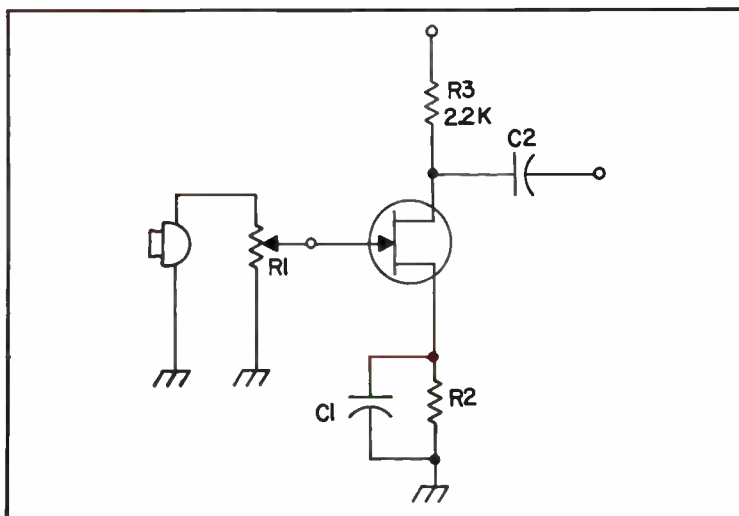
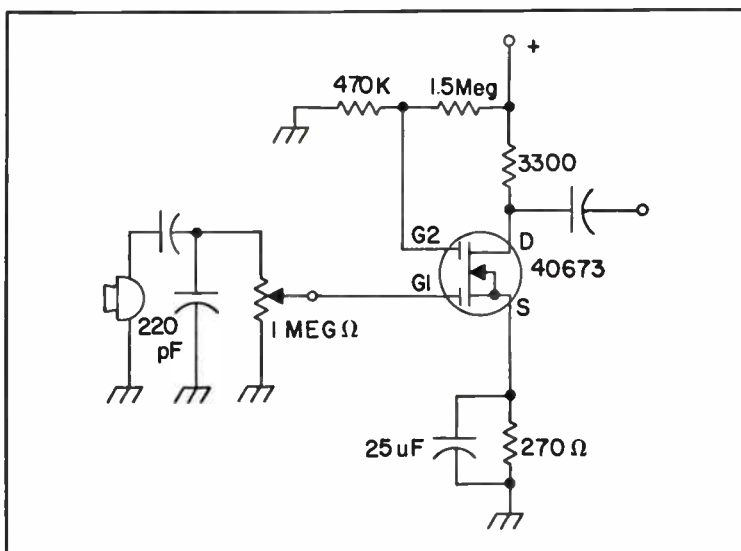

Fig. 12-4. JFET speech amplifiers.
Fig. 12-6. JFET speech amplifiers .
A small collection of field-effect transistor audio preamplifiers is shown in Figs. 12-4 through 12-6. The circuit in Fig. 12-4 uses a simple junction field-effect transistor (JFET). This particular circuit is an N-channel, which is the most commonly employed in negative-ground operation. The JFET is more like a vacuum tube in its characteristics, so the circuit looks much like a vacuum tube preamplifier. The microphone signal is applied directly to the gate of the JFET through a potentiometer that serves as the *microphone gain* control. This potentiometer should have a value of 100K ohms for low-impedance (Z) microphones and 1 megohm for high-Z mikes. Note that the 1 megohm value will also work with the low-Z microphone, so there's good cause to use 1 megohm to universalize the circuit.
The last JFET circuit is the MOSFET (metal-oxide semiconductor field-effect transistor) circuit of Fig. 12-6. Most of the elements of this circuit are analogous to Fig. 12-4. There is, however, a second gate in this circuit. The second gate is biased on by a resistor voltage divider network, but it can also be used as an automatic gain control (agc) terminal. This agc is sometimes used in radio transmitter speech amplifiers to keep the modulation level constant, thereby compensating for variations in the radio operator's voice level. In those circuits, the audio in some later stage would be rectified to provide a DC control voltage. This voltage will be applied to gate G2 in a polarity that will increase the gain of the stage when the audio level drops and will decrease the gain when the audio level rises.